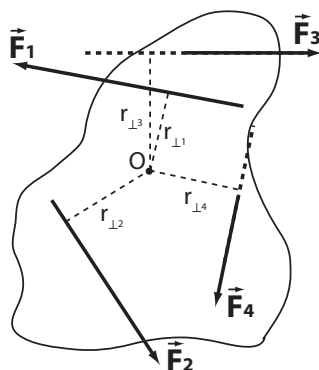

Figure 1: Torques about the point 'O'
The forces acting on a planar body are shown in Figure 1. An arbitrary point 'O' about which to sum the torques has been chosen and the *lever arms* (perpendicular distances from the lines of action of each of the forces to the chosen point) have been drawn. In this example,  $\vec{F}_1$  and  $\vec{F}_2$  will tend to rotate the body in a counter-clockwise (positive) direction about point O while  $\vec{F}_3$  and  $\vec{F}_4$  will tend to rotate the body in a clockwise (negative) direction. The second condition for equilibrium will be satisfied if the algebraic sum of the four torques is zero. For the above example
8. Choose & label a pivot point 'O' that is INSIDE the outline of your plate about which to sum the torques. Any point *should* work; however, to reduce error **DO NOT CHOOSE the centre of gravity (CG) or a point which lies within 1 cm of the line of action of any of the forces.**
9. Using a sharp pencil, a ruler, and a triangle, **draw perpendiculars** from the (extended) lines of action of the forces to the point 'O'. Label the perpendicular distances from each of the force lines to the point 'O' as  $r_{\perp i}$  (as shown in Figure 1). **PROPERLY measure these distances (in cm), recording your  $r_{\perp i}$  values (in m) in the table.** Show a sample calculation below the table.